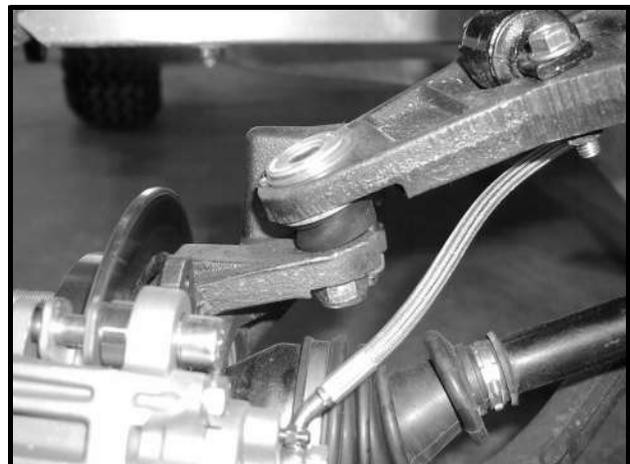

Figure 7-28 Upper Ball Joint
7. Remove the nut from the ball joint (**Figure 7-28, Page 7-14**).
5. Install the upper ball joint on the upright upper tab (**Figure 7-28, Page 7-14**).